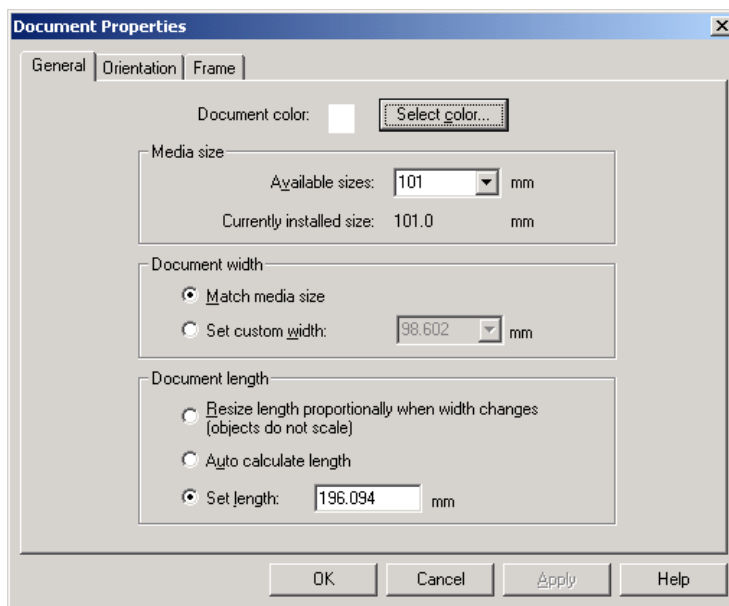

FIGURE 5. Document Properties Dialog Box: General Tab
The Document Properties dialog box (Figure 5 on page 3-20) appears.
1. Select **Properties** from the Document menu or click  on the Document toolbar. The Document Properties dialog box (Figure 5 on page 3-20) appears.